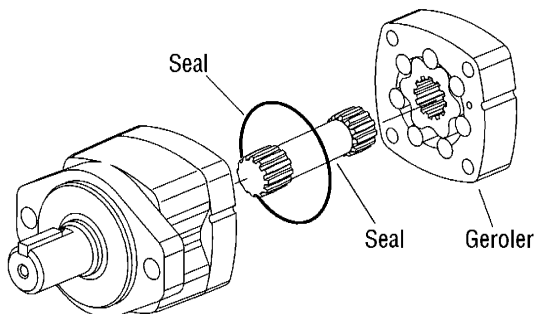

Figure 7
- 15 Remove the 76,0 [3.00] diameter seal from wear plate, see Figure 7.